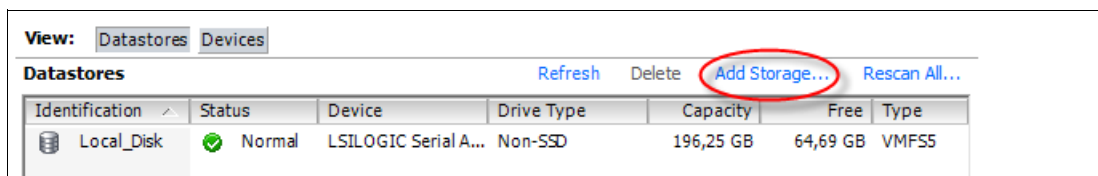

Figure 7-8 Add Storage
8. To create a new datastore on the detected volumes, go to **Configuration** → **Storage** and click **Add storage** as shown in Figure 7-8. This action starts a wizard that guides you through the steps to create a new VMFS datastore.